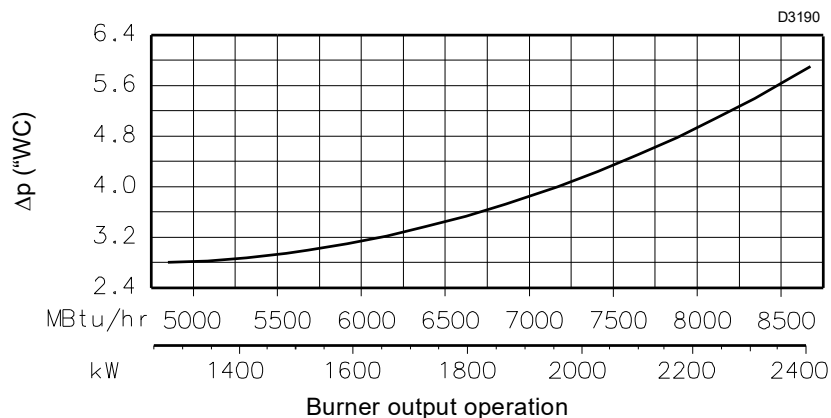
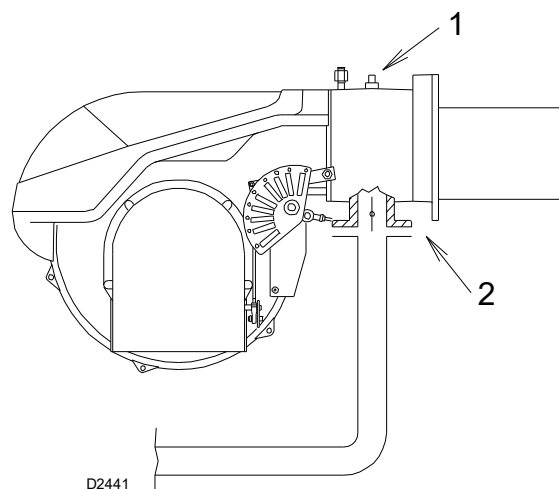

Fig. 25
Fig. 26
The diagram (Fig. 25) shows minimum load losses at combustion head depending on the maximum burner output operation with natural gas (G 20).
Gas pressure is measured at the test point 1)(Fig. 26), with:
- subtract the combustion chamber pressure from the gas pressure measured at test point 1)(Fig. 26);
- find, in the diagram (Fig. 25) the pressure value closest to the result you want;
- Gas pressure at test point 1)(Fig. 26) = 6 "wc
To know the required gas pressure at test point 1)(Fig. 26), set the maximum output required from the burner operation, then:
- read, on the diagram (Fig. 25), the pressure test point 1)(Fig. 26);
- pressure required at pressure test point 1)(Fig. 26).
Δp "WC gas butterfly 2)(Fig. 26)